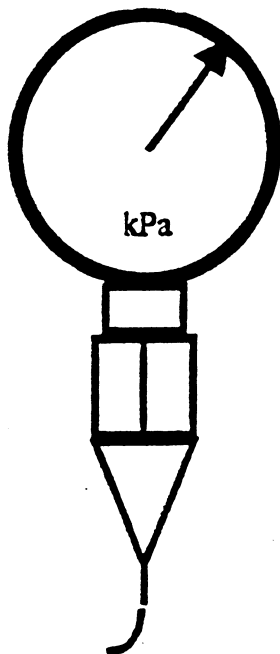
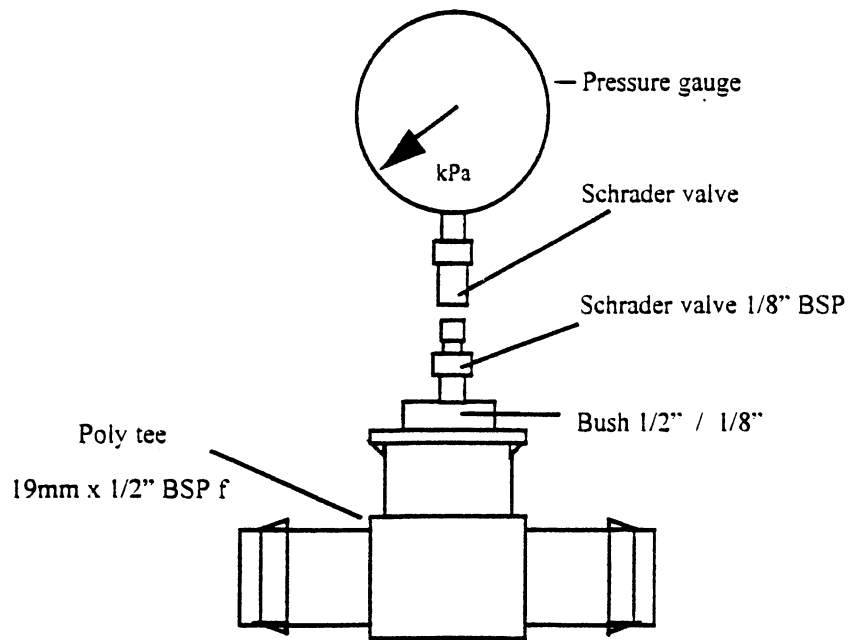

Figure 1: Pitot Tube
Figure 2: Schrader Valve
- A Pitot tube attachment (pronounced pit-oh) (Figure 1), or a threaded 15 mm PVC tee and fittings such as reducing bushes for small low-level sprinklers, or a Schrader valve, or a needle valve fitting (Figure 2)